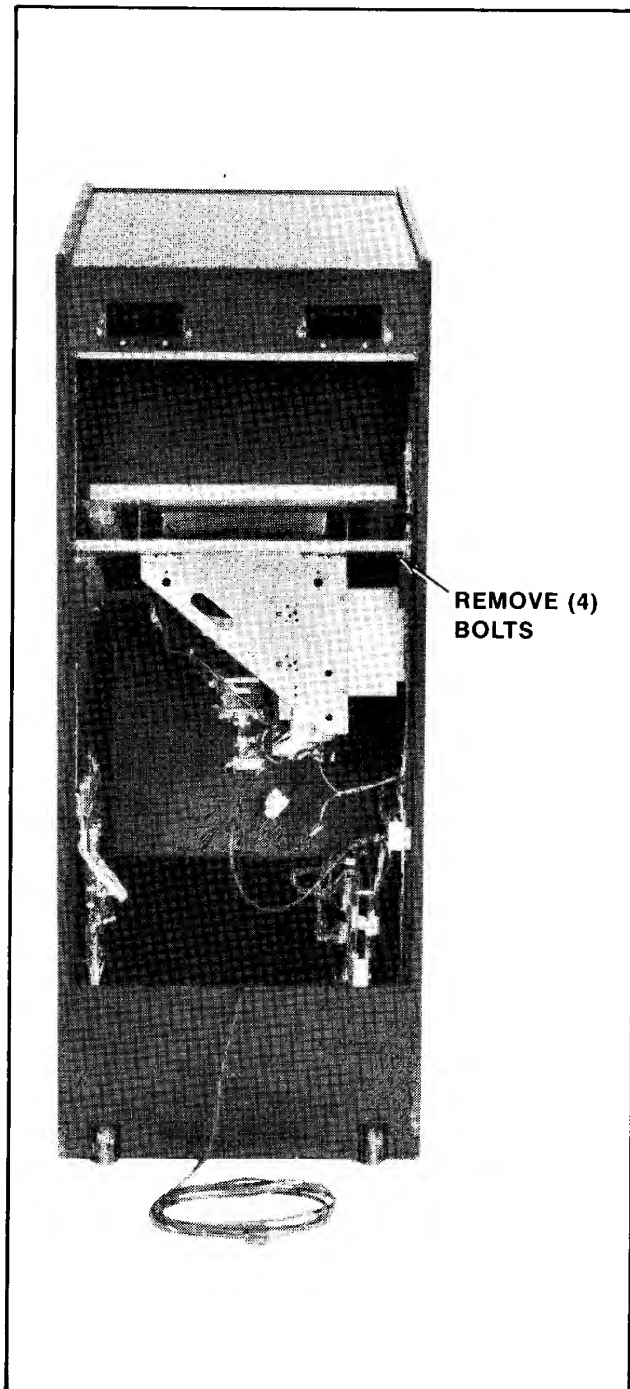

Figure 4-8 Removing Monitor — Upright
1. UPRIGHT MODEL: See Figure 4-8.